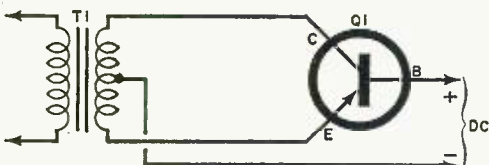
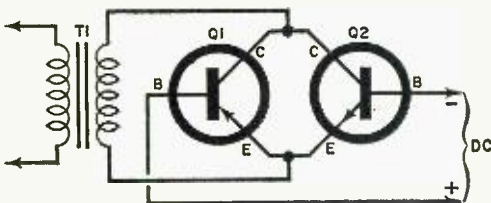

Fig. 4. Low-to-moderate current rectifier circuit.
Fig. 5. Bridge rectifier made from two transistors.
**Transistors.** In one sense, a bipolar transistor is really two diodes connected "back-to-back." Most experimenters and engineers know that transistors can be used as relatively effective half-wave diode detectors or rectifiers simply by connecting to the base and emitter (or collector) leads, even if the other electrode is "open" internally. Less well known is the fact that—*within limitations—both diode elements may be used at the same time!* Several unusual transistor "diode" applications are illustrated schematically in Figs. 4 to 7. Component values
A simple full-wave rectifier circuit using a single *pnp* transistor,  $Q1$ , and a center-tapped transformer,  $T1$ , is shown in Fig. 4. If an *npn* transistor is used, the output d.c. polarity is reversed. Low to moderate currents can be obtained with power transistors, but the circuit is not overly efficient, for the emitter-collector area acts as a resistive load on the transformer. Best results are obtained with low-gain, low-leakage transistors.
sembled by using both *pnp* ( $Q1$ ) and *npn* ( $Q2$ ) types, as shown in Fig. 5. As in the circuit of Fig. 4, efficiencies are low and best results are obtained with low-gain, low-leakage types.